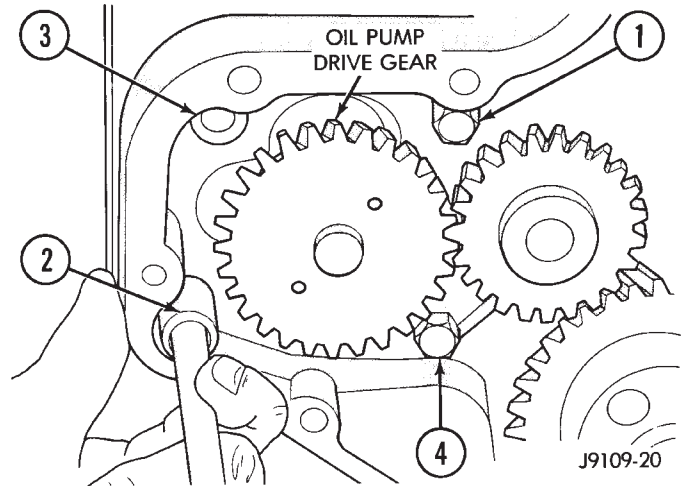

Fig. 100 Oil Pump Removal
- (1) Remove the radiator (refer to Group 7, Cooling System for the proper procedure).
- (2) Loosen the crankshaft vibration damper and remove the drive belt.
- (3) Remove the fan clutch assembly.
- (4) Remove the fan hub.
- (5) Remove the oil fill tube.
- (6) Remove the crankshaft vibration damper.
- (7) Remove the gear housing cover.
- (8) Remove the four mounting bolts and pull the pump from the bore in the cylinder block (Fig. 100).
(1) Lubricate the pump with clean engine oil. Filling the pump with clean engine oil during installation will help to prime the pump at engine start up. Make sure the idler gear pin is installed in the locating bore in the cylinder block.
(2) Install the pump. Tighten the oil pump mounting bolts in two steps and in the sequence shown (Fig. 100).